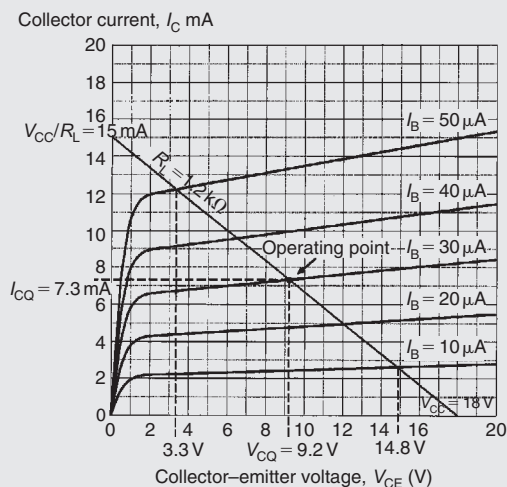

Figure 14.26
Problem 11. The characteristic curves shown in Fig. 14.26 relate to a transistor operating in common-emitter mode. If the transistor is operated with $I_B = 30\ \mu\text{A}$, a load resistor of $1.2\ \text{k}\Omega$ and an $18\ \text{V}$ supply, determine (a) the quiescent values of collector voltage and current (V_{CQ} and I_{CQ}) and (b) the peak-peak output voltage that would be produced by an input signal of $40\ \mu\text{A}$ peak-peak.
- (a) First we need to construct the load line on Fig. 14.26. The two ends of the load line will correspond to V_{CC} , the $18\ \text{V}$ supply, on the collector-emitter voltage axis and $18\ \text{V}/1.2\ \text{k}\Omega$ or $15\ \text{mA}$ on the collector current axis.
- (b) Next we can determine the maximum and minimum values of collector-emitter voltage by locating the appropriate intercept points on Fig. 14.26. Note that the maximum and minimum values of base current will be $(30\ \mu\text{A} + 20\ \mu\text{A}) = 50\ \mu\text{A}$ on positive peaks of the signal and $(30\ \mu\text{A} - 20\ \mu\text{A}) = 10\ \mu\text{A}$ on negative peaks of the signal. The maximum and minimum values of V_{CE} are, respectively, $14.8\ \text{V}$ and $3.3\ \text{V}$. Hence,